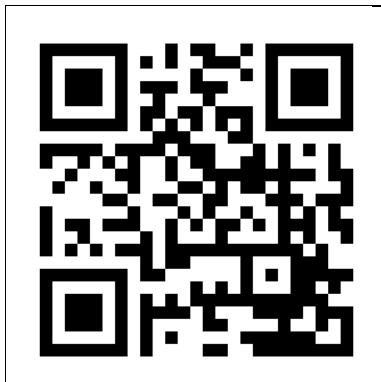

Figure 17
1. Open the Eurom Smart App manual with the QR code (Figure 17) or go to www.eurom.nl/nl/manuals.